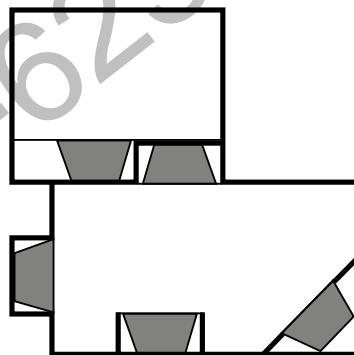

Figure 1
- Minimize modifications to existing construction. See **Figure 1** for location suggestions.